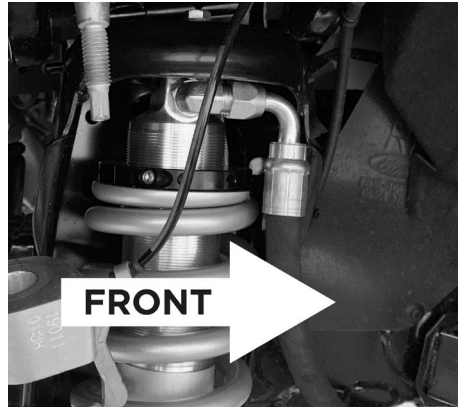

Figure 7: Passenger side shown
12. Remove the top (3) nuts that secure the top of the stock coil-over assembly to the vehicle. **DO NOT** remove center nut; doing so will release the spring from the stock assembly and could result in **SERIOUS INJURY** or **DEATH!**
13. Remove the (2) lower coil-over nuts connecting the shock to the lower control arm.
15. Once the stock coil-over is removed, you can now install your new FOX coil-over. With remote reservoir models, make sure that the hoses are facing outward and towards the front of the vehicle (Figure 7). Connect the coil-over top hat to the vehicle with the provided washers and nuts. Tighten all three nuts to 24 FT-LBS.